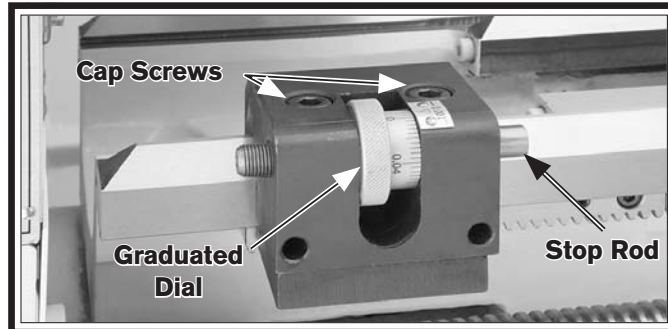

Figure 64. Micrometer stop.
2. Loosen the cap screws shown in **Figure 64**, then use the carriage handwheel to position the carriage and cutting tool at the desired stopping point.